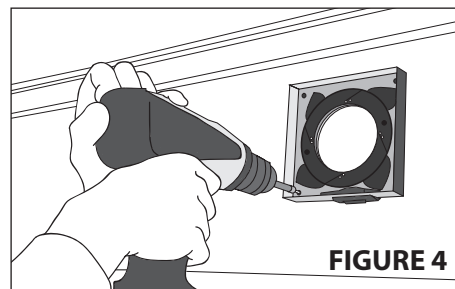
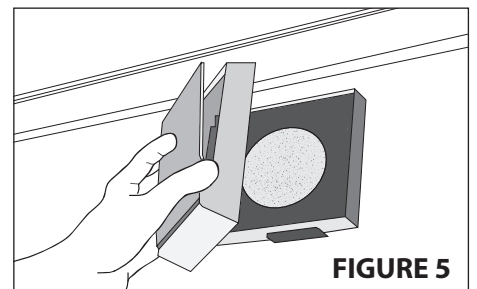

FIGURE 4
FIGURE 5
4. Loosen the front cover and filter from the vent housing. Press the internal adapter onto the backside of the vent housing. Seal the outer part of the vent housing with a small bead of caulk in order to ensure an airtight seal. Install the internal part on the wall with the remaining screws. **See Figure 4.** Set the desired opening of the regulator using the manual adjustment, and reinstall filter and front cover. **See Figure 5.**